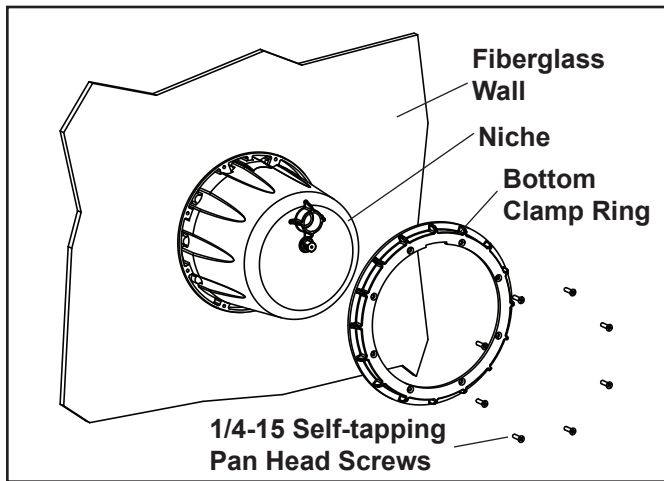

Figure 2. Rear Locking Ring Installation
- Assemble locking clamp onto the back of the niche body from the outside of pool. See Figure 2. Be sure to orient the niche so that the 'TOP' marking of the niche is in the 12 o'clock position, then use the eight (8) 1/4-15 self-tapping pan head